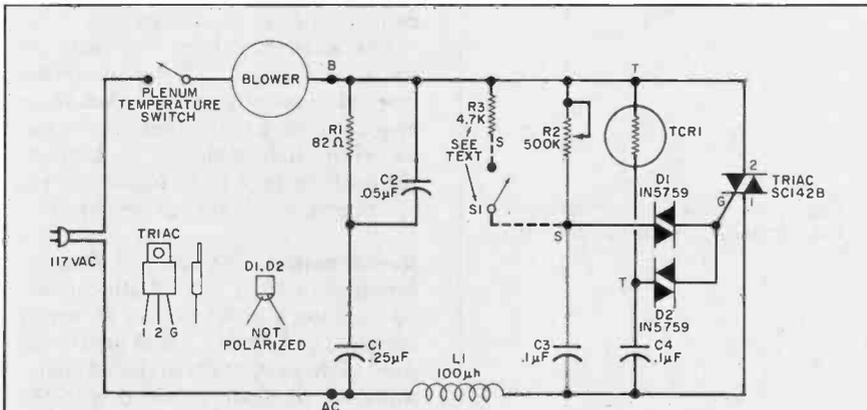

Fig. 1. The blower-motor control circuit is based on the use of a triac.
**Circuit Operation.** The heart of the revised blower-motor control is a triac. A triac is a three-electrode semiconductor device that is triggered into conduction in response to a gate signal. The action of a triac is similar to that of a silicon-controlled rectifier (SCR), except that it can conduct current in both directions, as required in an ac circuit. As shown in the schematic (Fig. 1), a signal is applied to the gate of the triac through a thermister and diac *D2*. (A diac is a solid-state trigger device that has a breakdown voltage similar to that of a zener diode, except that it works in either direction.)